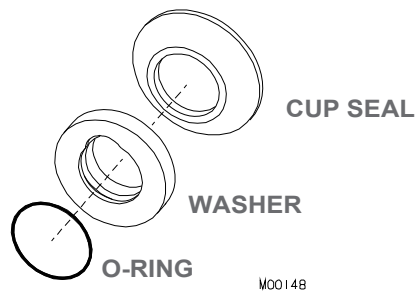

Figure 6-3 Shaft Seal
7. Remove the handle pin (9), handles (10,12), plungers (4,8) and nozzles (13) from the dispense head.
8. Remove O-rings (3) from the dispense head and O-rings (2) from the plungers (4,8).
9. Remove the cup seals (figure 6-3) and O-rings from the plastic washers on the shaft seal assemblies.